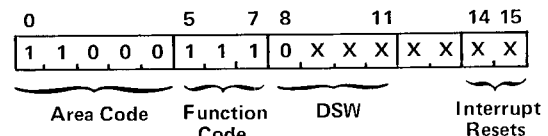

Fig. 2-9. IOCC for Sense Device
Sense Device. Fig. 2-9 shows the meaning of bits 8 through 15 when the Function Code bits are one, one, one (111).